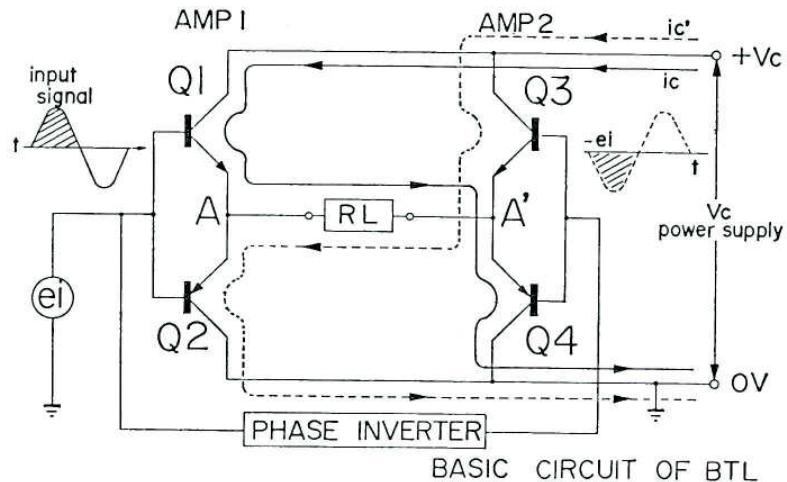
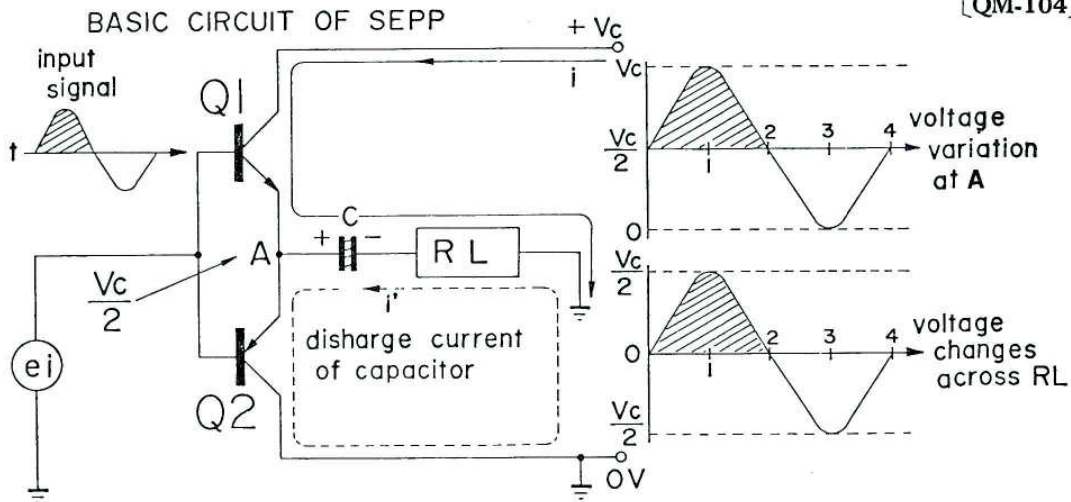
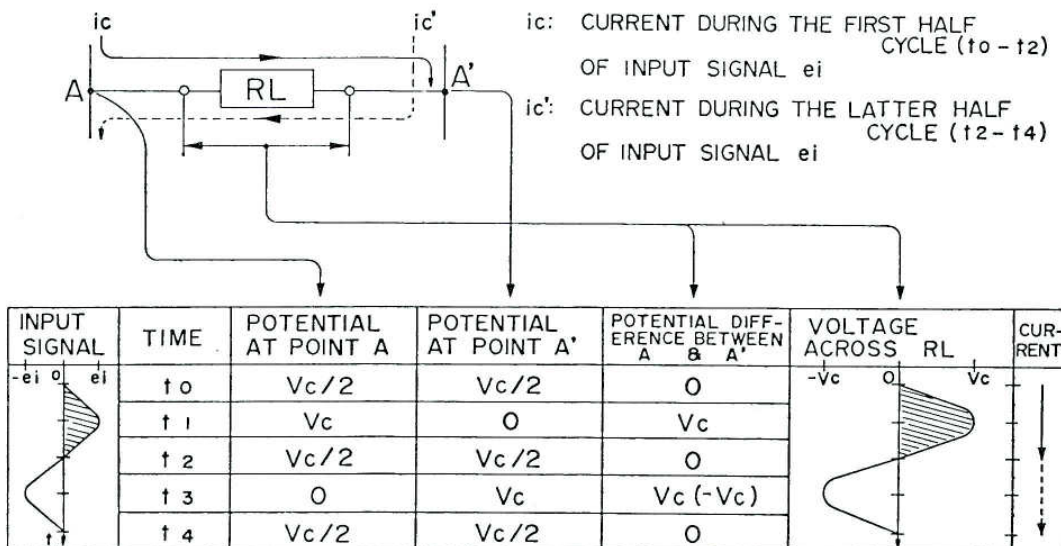

Fig. 6
Fig. 7
Fig. 8
The basic circuit diagram of a BTL circuit is shown in Fig. 6 (with resistors and capacitors omitted). Both AMP 1 and AMP 2 are composed of identical SEPP circuits. The 4 transistors are arranged to form a Wheatstone bridge, with a load resistance (R_L) connected between the output terminals (A-A') of both amplifier circuits. An important feature in the QM-104 is the phase inverter circuit inserted in the circuit for AMP 2.
Fig. 7 shows how a single SEPP circuit (for example, AMP 1 in Fig. 6 above) operates.
Fig. 8 indicates the voltage changes occurring across the load resistance (RL) (between A and A') in the BTL circuit shown in Fig. 6.